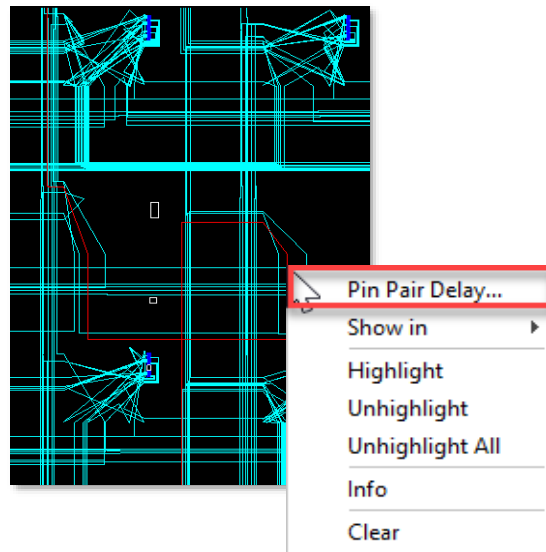

Figure 3.24. Pin Pair Delay Option
- From the contextual menu, choose the **Pin Pair Delay** option as shown in Figure 3.24. This action initiates the analysis process, providing specific information related to the net's delay characteristics.